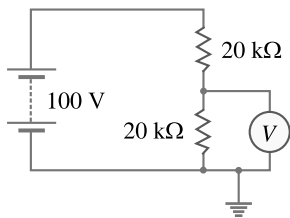

Fig. 20.34
1. A voltmeter is used to measure voltage across  $20\text{ k}\Omega$  resistor as shown in Fig. 20.34. What will be the voltage value if (i) voltmeter has infinite resistance (ii) voltmeter has a sensitivity of  $1000\ \Omega$  per volt and reads  $100\text{ V}$  full-scale ?
3. If the sensitivity of voltmeter in Fig. 20.34 is  $500\ \Omega/\text{volt}$  (Full-scale reading being  $100\text{ V}$ ), what will be the reading of the voltmeter ?